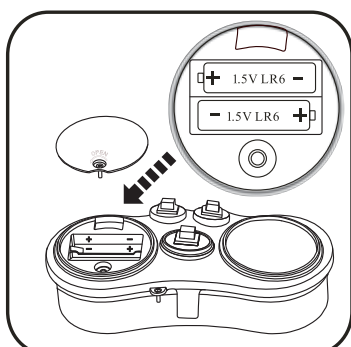

Fig.3 Instrumental Panel Kit
4. Open the battery cover, use hex screw driver to open the screw and then insert two “AA”size batteries into batteries compartment . Replace the cover and tighten screw. (Fig.3)
5. Instrumental panel have three sound effect buttons (Fig.3); press red button is ambulance sound effect, press green button is police car sound effect, and press yellow is fire engine alarm sound effect.(To prevent malfunction in the inner parts, keep away from the moist.)